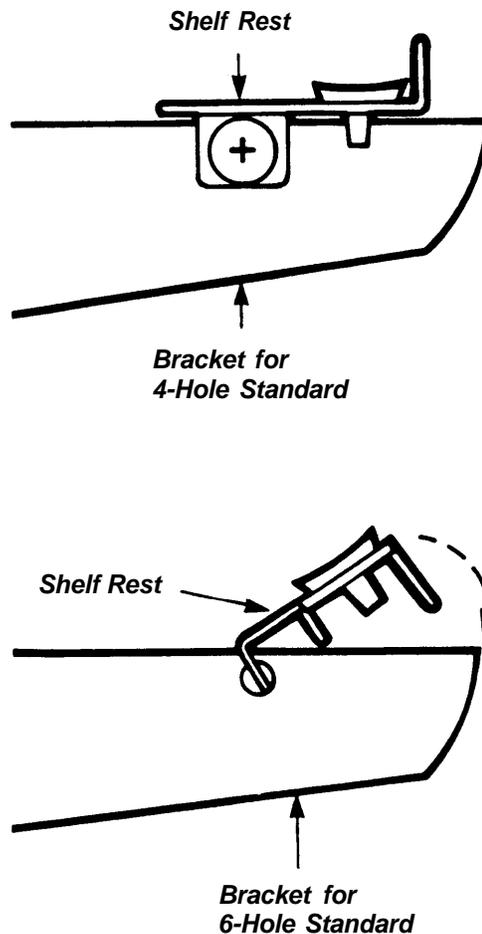

Figure 5.
- For the 4-hole standards, insert the four rubber cushions into the holes on the shelf rests. Align the holes on the bottom of a shelf rest with the hole at the end of a bracket and attach the shelf rest with one of the small self-tapping screws (Figure 5). Repeat with the other shelf rest.
- For the 6-hole standards, the rubber cushions are already in place. Insert the small rectangular tab on a shelf rest into the hole on the end of a bracket. Turn the shelf rest in a clockwise direction until the clip on the bottom of the shelf rest latches onto the sides of the bracket (Figure 5). Repeat with the the other shelf rest.